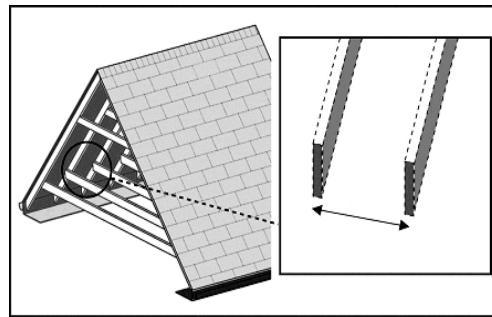

Fig. 5.1.1 – Roof rafter spacing.
1. Determine location and spacing of roof rafters (Fig. 5.1.1). This may be easy from inside attic, but rafter positions need to be transferred to exterior roof. This may be done in a number of ways and will depend on access: